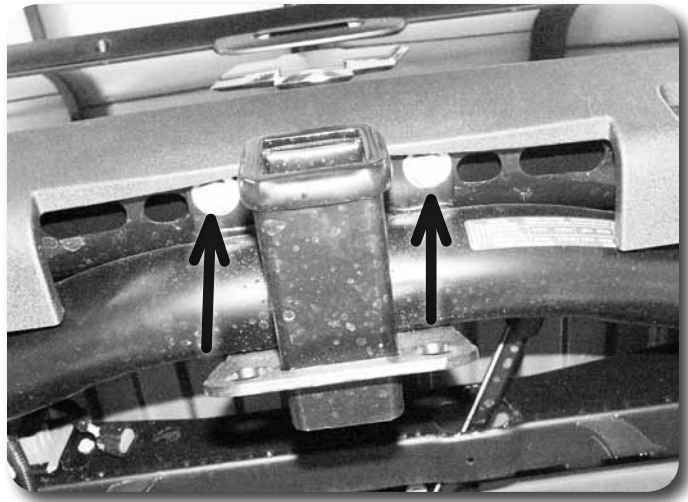

Figure 29
4. If equipped, remove the two bolts mounting the rear bumper to the receiver hitch **Figure 29**.